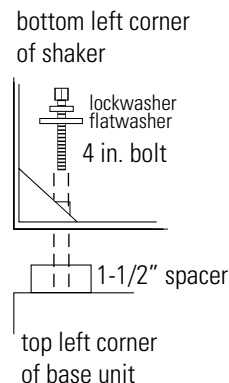

Figure 1-8. Shaker To Shaker
4. Carefully lift and position the middle or top unit over the spacers on the base unit. Align the (4) connection point holes in the bottom of the middle or top unit with the (4) spacers and threaded inserts. (Helpful hint: use masking tape around outside edge of spacers to hold in place during installation. Remove tape after installation.)
5. Assemble the lockwashers, then the flatwashers, onto the 5/16-18 x 4” bolts. Thread the bolts through the connection point and spacer and into the unit below (Figure 1-8). Tighten bolts.